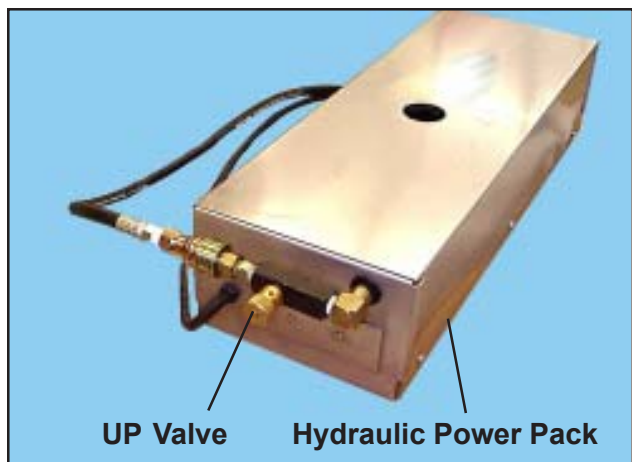

Figure 6. UP Valve
2. Press on the **UP** side of the foot controller and observe the table's upward motion. Adjust the **UP** valve on the power pack (Figure 6) until the table raises at a comfortable speed. Rotate the valve: